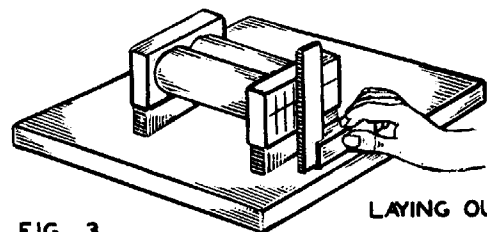

FIG. 3
5. Vertical lines are next laid out by using the combination square or solid steel square and scriber. Intersections and centers are then marked off on the horizontal lines from the first vertical line by use of the dividers. The subsequent vertical lines are marked with the dividers, square, and scriber. (Fig.3). Angular lines may be laid out by using the bevel protractor. (Fig. 4).